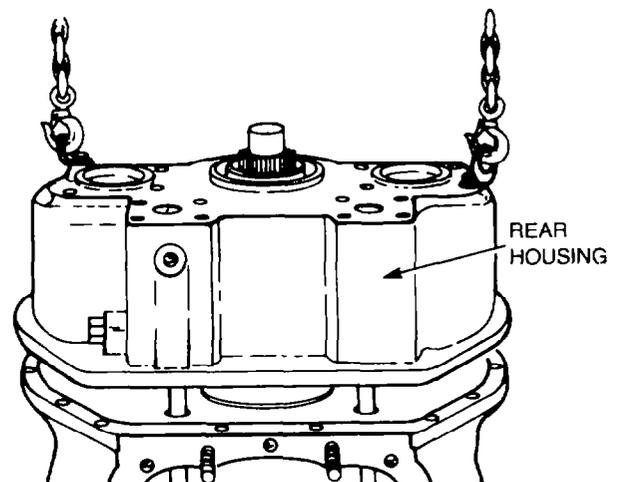

Figure 163 — Rear Housing Removal
- l. Attach lifting lugs to the rear housing and, with suitable overhead lifting equipment, remove the rear cover from the transmission assembly (see Fig. 163).